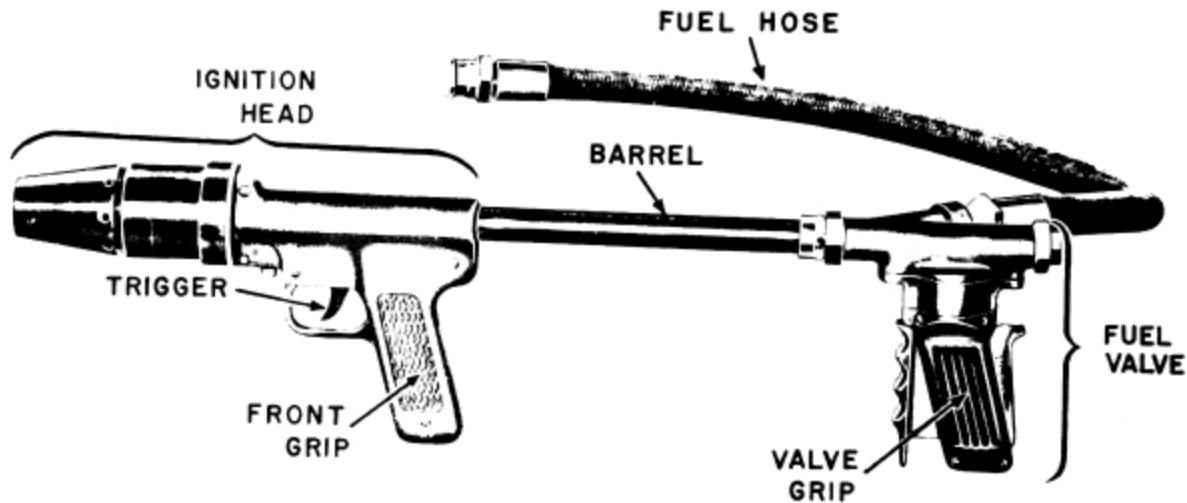

Fig 6. Gun group of portable flame thrower M2-2.
(1) Two fuel tanks, holding a total of 4 gallons of fuel, and joined by a tank connector to form a single fuel reservoir.
(2) Pressure tank, charged with highly compressed air or nitrogen used to propel fuel from the fuel tanks through the gun to the target. The tank is large in capacity to assure ample pressure and uniformly long range throughout the firing.
(3) Pressure-tank valve, which releases air or nitrogen through the pressure regulator to the fuel tanks. The valve can be opened by the firer without the assistance required in the case of the M1A1 flame thrower.
(4) Pressure regulator, which automatically assures delivery of air or nitrogen to the fuel tanks at the proper pressure. The regulator is located in a position where it cannot easily be damaged.
(5) Carrier, which supports the tank group on the firer's back and shoulders and secures it to his body. It includes body and shoulder straps and quick-releasing fasteners.
b. Gun group. (Fig 6) Carried, aimed, and operated by the hands of the firer, the gun group ignites the fuel and directs the flame into the target. It includes:
(1) Fuel hose, which conveys fuel from the tank group to the gun. The fuel hose may be requisitioned as hose, fuel, portable flame thrower, M1, assembly B81-1-498.
(2) Gun, which ignites the fuel and directs it to the target. The gun may be identified as gun, portable flame thrower, M2, assembly D81-1-405. It consists of: